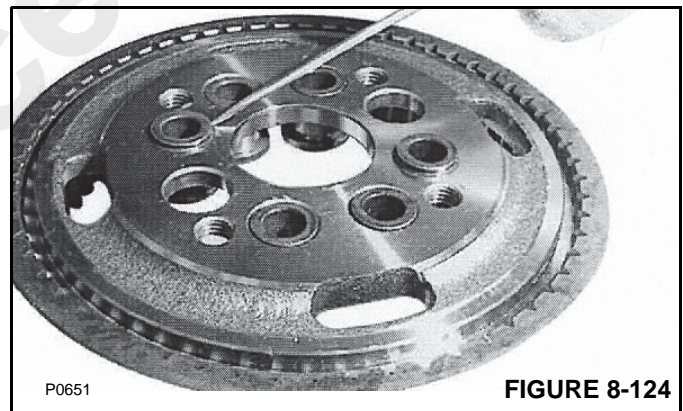

FIGURE 8-124
- Place the wheel carrier on a workbench and install the bushings (Figure 8-124) level to the carrier surface using SPECIAL TOOL P/N 19001776.